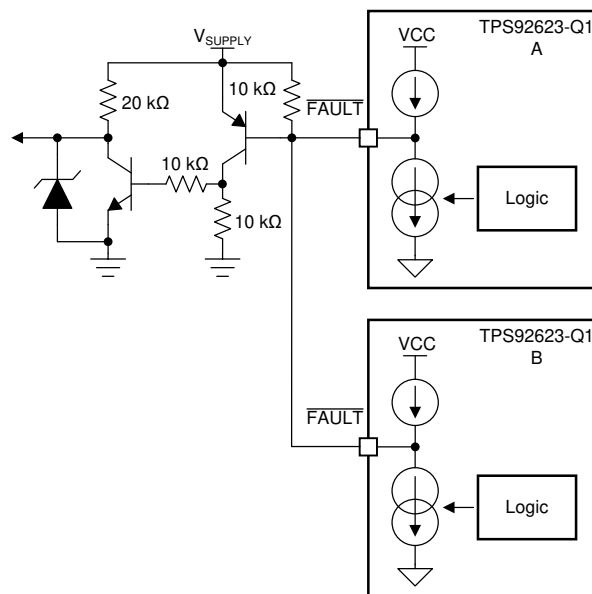

Figure 7-7. FAULT Bus for One-Fails-Others-On Application
TPS92623-Q1 (B) detects any kind of LED fault and pulls low the $\overline{\text{FAULT}}$ pin. The low voltage on $\overline{\text{FAULT}}$ pin is detected by upper side TPS92623-Q1 (A) because the $\overline{\text{FAULT}}$ pins are connected of two devices. The upper side TPS92623-Q1 (A) turns off all output current for each channel as a result. If the $\overline{\text{FAULT}}$ pins of each TPS92623-Q1 are all connected to drive the base of an external PNP transistor as illustrated in Figure 7-7, the one-fails-all-fail function is disabled and only the faulty channel device is turned off.